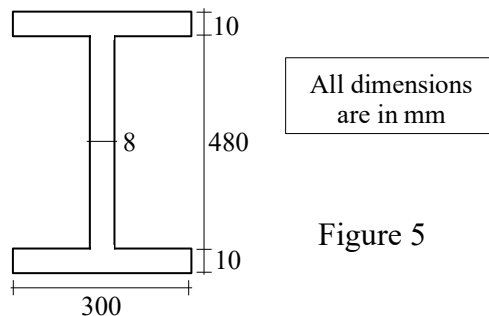

Figure 5
5. A simply supported steel beam of span 8 m is subjected to a uniformly distributed load of 25 kN/m. The cross-section of the beam is as shown in Fig. 5. Determine the maximum normal stresses due to bending. [4]